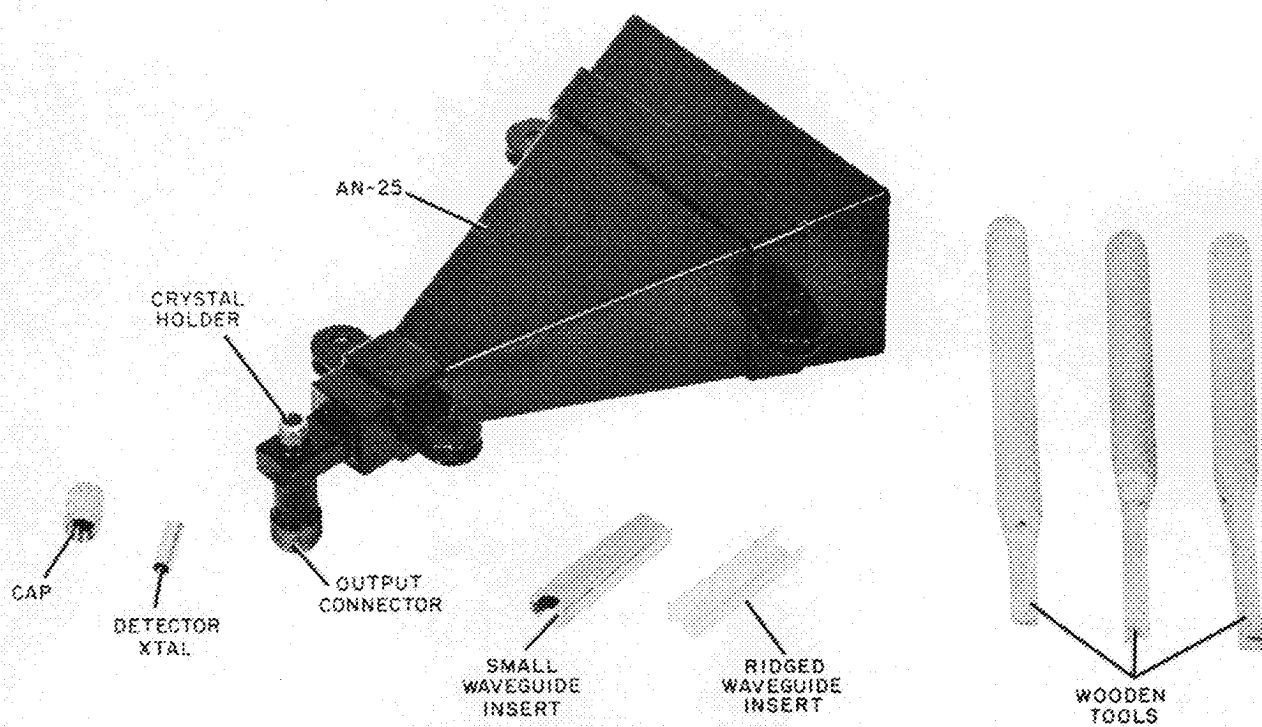

Figure 1-12. 10,000- to 40,000-Mc Antenna, Filter, and Detector System
a. If Antenna AN-25 is to be used for the frequencies between 20,000 and 40,000 mc, it may be used without either of the wave guide inserts. Connect the video amplifier cable to the type TNC connector. This is the AN/B-25 designation. Refer to figure 1-12.